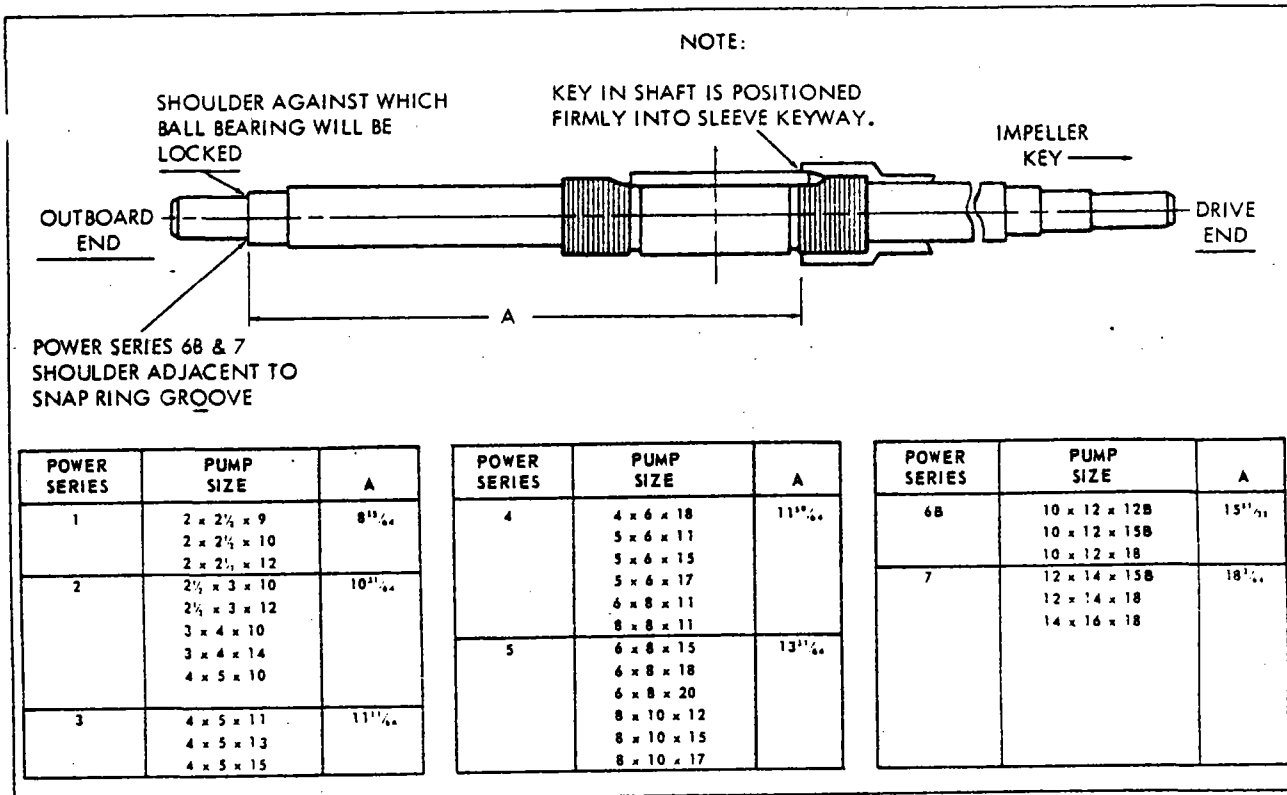
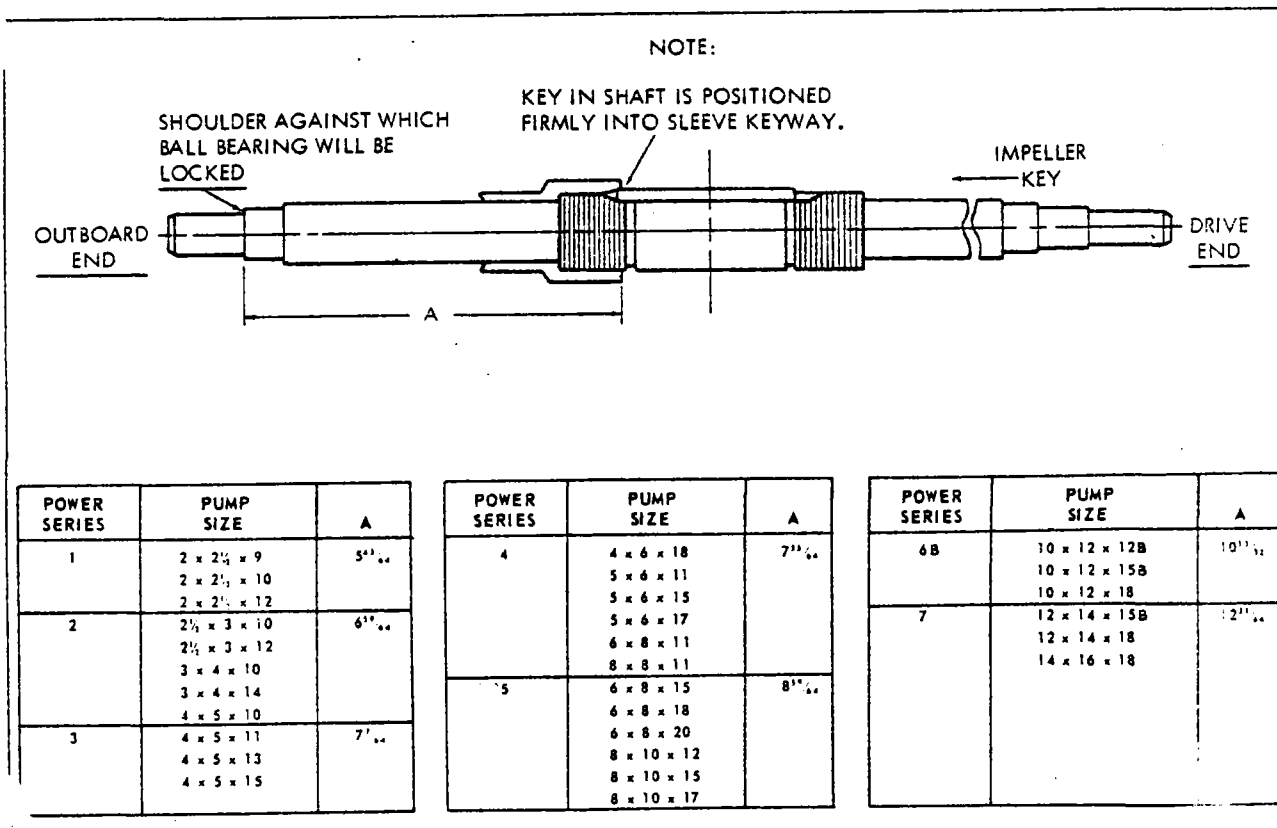

Figure 2. Locating Shaft Sleeve on Shaft, Right Hand Rotation
Figure 3. Locating Shaft Sleeve on Shaft, Left Hand Rotation
1. Position locating pins (67) in lower casing (69), adding swing bolt pins (68) if used on your pump. Install wearing ring pins (66). Tap pins gently to seat them in place. If nameplate (71) was removed, install it with screws (70).
2. On a right-hand unit thread inboard sleeve (64) onto shaft (65) distance A (refer to Figure 2). On a left-hand unit thread outboard sleeve (57) onto shaft distance A (refer to Figure 3). When the sleeve is in position its keyway should align with keyway on shaft. Coat key and keyway with Loctite sealant grade CVV. Insert key (63) into keyways of shaft and sleeve. Tap key firmly in place.
3. Coat inside diameter of impeller wearing rings (61) (optional) with Loctite sealant Grade AV and press them over hubs of impeller (59). Do not attempt to hammer impeller wear rings into position, since they are a press fit. Use of an arbor press is preferred. However, placing a block of wood over the impeller wearing ring and pressing it in will work satisfactorily. For power frames 5, 6B and 7 only, two setscrews (78) will be installed by drilling into wearing rings and impeller. The opposite surface of the impeller should be protected from damage throughout the procedures by resting it against soft wood on the surface of work bench.